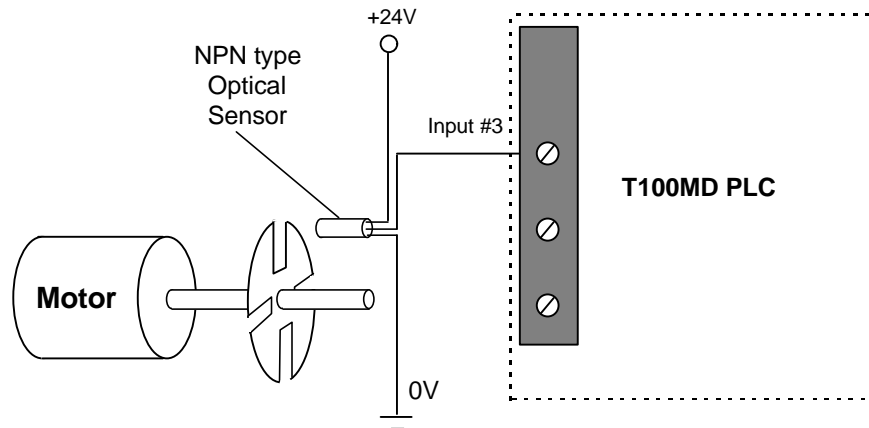

Figure 1.6 Setting Up a Simple Tachometer or Encoder
- 1) One useful application of the PM capability is to measure the speed of rotation of a motor. A simple optical sensor, coupled with a rotating disk with slots fitted to the shaft of a motor (see Figure 1.6) can be fabricated economically. When the motor turns, the sensor will generate a series of pulses. The frequency of this pulse train relates directly to the rotational speed of the motor and can be used to provide precise speed control. Note that the above setup can also double as a low cost position-feedback encoder when used with the high speed counter, since the number of pulses counted can be used to determine the displacement.